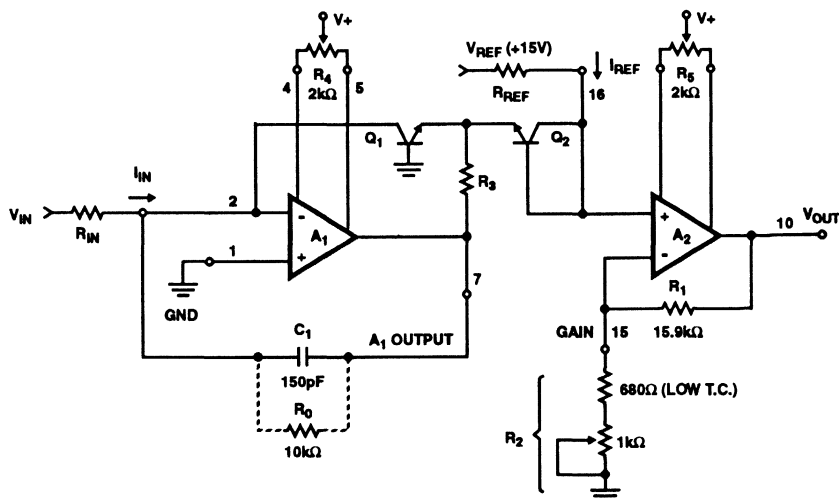
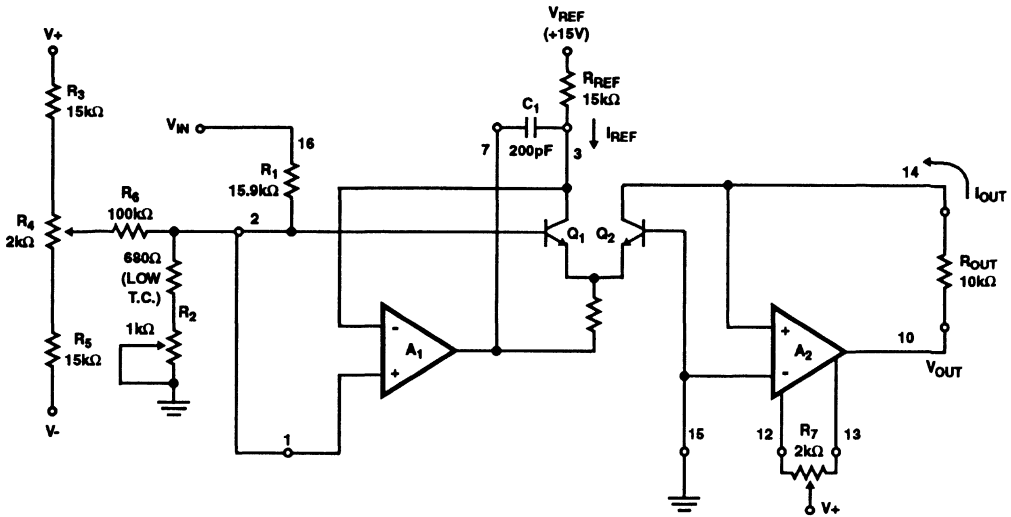
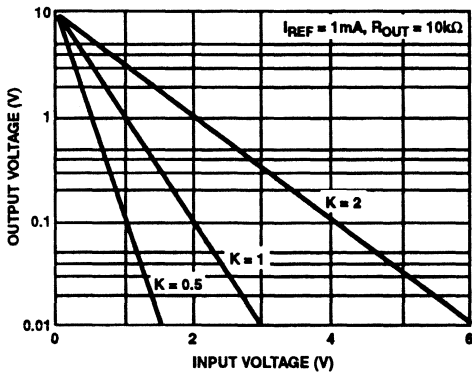
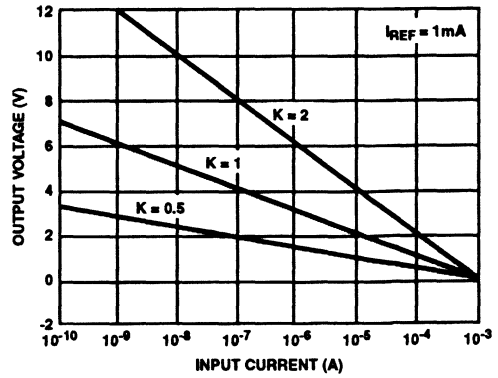

FIGURE 11. ICL8048 OFFSET AND SCALE FACTOR ADJUSTMENT
FIGURE 12. ICL8049 OFFSET AND SCALE FACTOR ADJUSTMENT
FIGURE 13. EFFECT OF VARYING "K" ON THE ANTILOG AMPLIFIER
FIGURE 14. EFFECT OF VARYING "K" ON THE LOG AMPLIFIER
Referring to Figure 11 it is clear that the potential at the collector of Q_2 is equal to the ΔV_{BE} between Q_1 and Q_2 . The output voltage is ΔV_{BE} multiplied by the gain of A_2 :
A log amp, unlike an op amp, cannot be offset adjusted by simply grounding the input. This is because the log of zero approaches minus infinity; reducing the input current to zero starves Q_1 of collector current and opens the feedback loop around A_1 . Instead, it is necessary to zero the offset voltage of A_1 and A_2 separately, and then to adjust the scale factor. Referring to Figure 11, this is done as follows:
The ICL8049 relies on the same logarithmic properties of the transistor as the ICL8048. The input voltage forces a specific ΔV_{BE} between Q_1 and Q_2 (Figure 12). This V_{BE} difference is converted into a difference of collector currents by the transistor pair. The equation governing the behavior of the transistor pair is derived from (2) on the previous page and is as follows:
As with the log amplifier, the antilog amplifier requires three adjustments. The first step is to null out the offset voltage of A_2 . This is accomplished by reverse biasing the base-emitter of Q_2 . A_2 then operates as a unity gain buffer with a grounded input. The second step forces $V_{IN} = 0$; the output is adjusted for $V_{OUT} = 10V$. This step essentially "anchors" one point on the transfer function. The third step applies a specific input and adjusts the output to the correct voltage. This sets the scale factor. Referring to Figure 12 the exact procedure for 1 decade/volt is as follows:
By adjusting R_2 (Figure 11 and Figure 12) the scale factor "K" in equation 9 and 10 can be varied. The effect of changing K is shown graphically in Figure 13 for the log amp, and Figure 14 for the antilog amp. The nominal value of R_2 required to give a specific value of K can be determined from equation 11. It should be remembered that R_1 has a $\pm 20\%$ tolerance in absolute value, so that allowance shall be made for adjusting the nominal value of R_2 by $\pm 20\%$.
Although the op amps in both the ICL8048 and the ICL8049 are compensated for unity gain, some additional frequency compensation is required. This is because the log transistors in the feedback loop add to the loop gain. In the ICL8048, 150pF should be connected between Pins 2 and 7 (Figure 11). In the ICL8049, 200pF between Pins 3 and 7 is recommended (Figure 12).
In both the ICL8048 and ICL8049 the input current reference pin (I_{REF}) is not a true virtual ground. For the ICL8048, a fraction of the output voltage is seen on Pin 16 (Figure 11). This does not constitute an appreciable error provided V_{REF} is much greater than this voltage. A 10V or 15V reference satisfies this condition. For the ICL8049, a fraction of the input voltage appears on Pin 3 (Figure 12), placing a similar restraint on the value of V_{REF} .